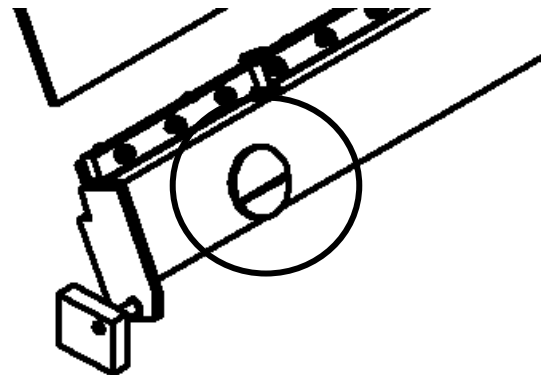

Figure 2-17
4. **SLOWLY** pour Reactor Oil (or equivalent) into the tank until the oil level in the oil level indicator, as shown in Figure 2-17, is at the top mark.